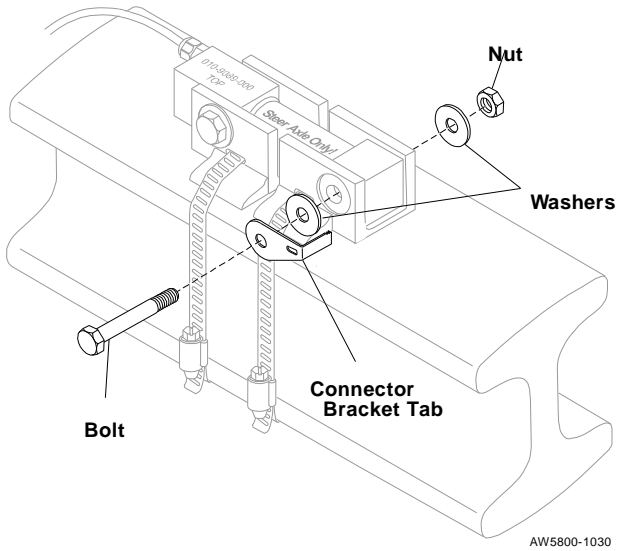

Figure 11. Installing the Connect Bracket
7. Ensure tongue and tab extends around the end of the sensor. See Figure 11. Place a hex nut (P/N: 132-0014-000) on each bolt and hand tighten.
1. Slide the connector assembly onto the connector bracket tab mounted on the deflection sensor bracket, by inserting the tab into the grooves on the bottom side of the connector receptacle. See Figure 11. Ensure the connector assembly slides completely on the mounting tab.